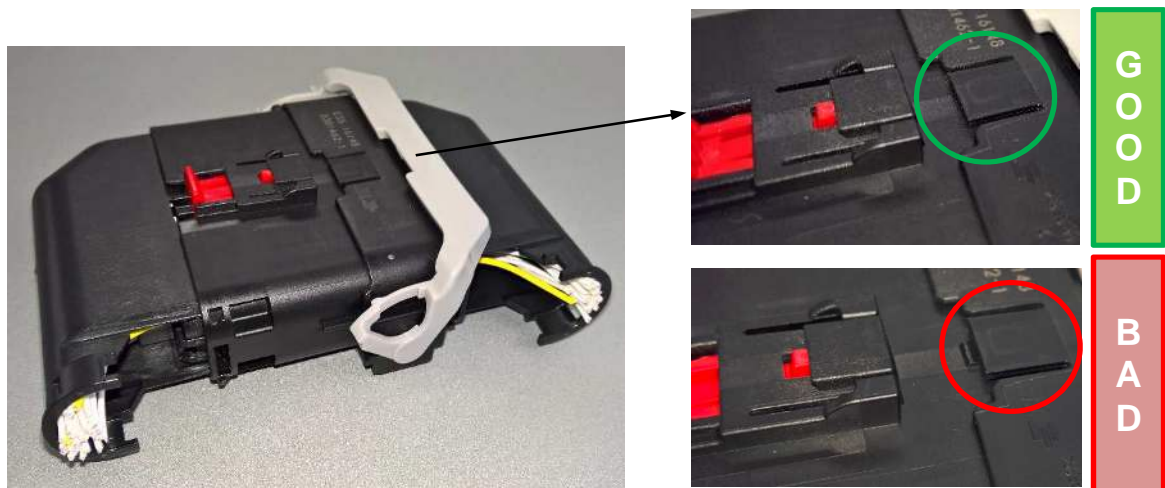

Figure 9
3. When pre-stage latch is over the ramp on cap connector (Figure 9), lever is able to be rotated. A small movement (or pop) of the lever may accompany this stage.